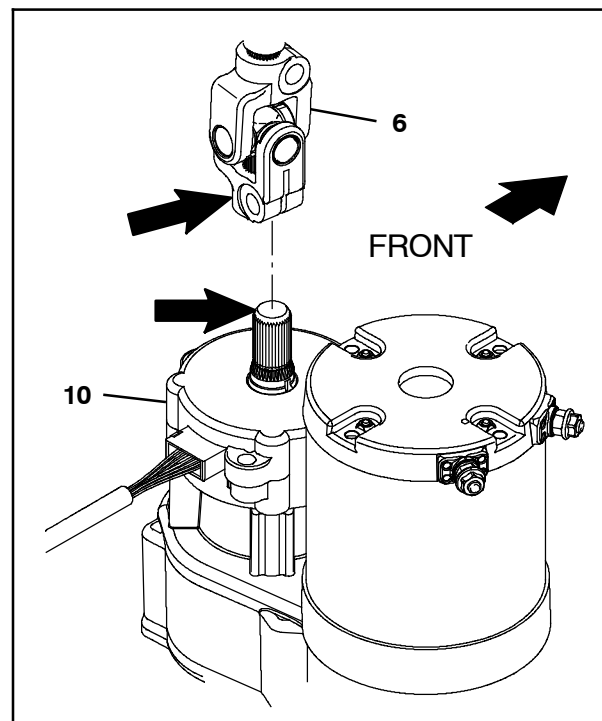

FIG. 37
38. Tighten hardware to secure the power steering motor (10) into the bottom of the power steering top shaft (6). Torque the SEMS M8 hex screws to 22 Nm (16 ft lbs). (Fig. 37)